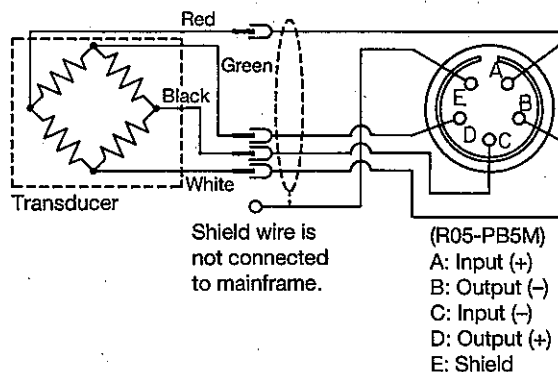

Fig.3-1
3.2 If a strain amplifier other than KYOWA make is used, connection will be made, referring to Fig. 3-1 below.